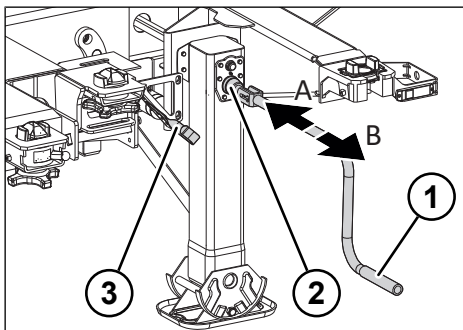

Fig. 5-3: Load speed and rapid speed of the landing leg winch
- ▶ Switch on rapid speed by pulling out the hand crank (see "Fig. 5-3: Load speed and rapid speed of the landing leg winch", pg. 22).
- ▶ Switch on load speed by pushing in the hand crank (see "Fig. 5-3: Load speed and rapid speed of the landing leg winch ", pg. 22).
- ▶ Set to load speed by pushing in the hand crank (see "Fig. 5-3: Load speed and rapid speed of the landing leg winch ", pg. 22).
- ▶ Set to rapid speed by pulling out the hand crank (see "Fig. 5-3: Load speed and rapid speed of the landing leg winch ", pg. 22).